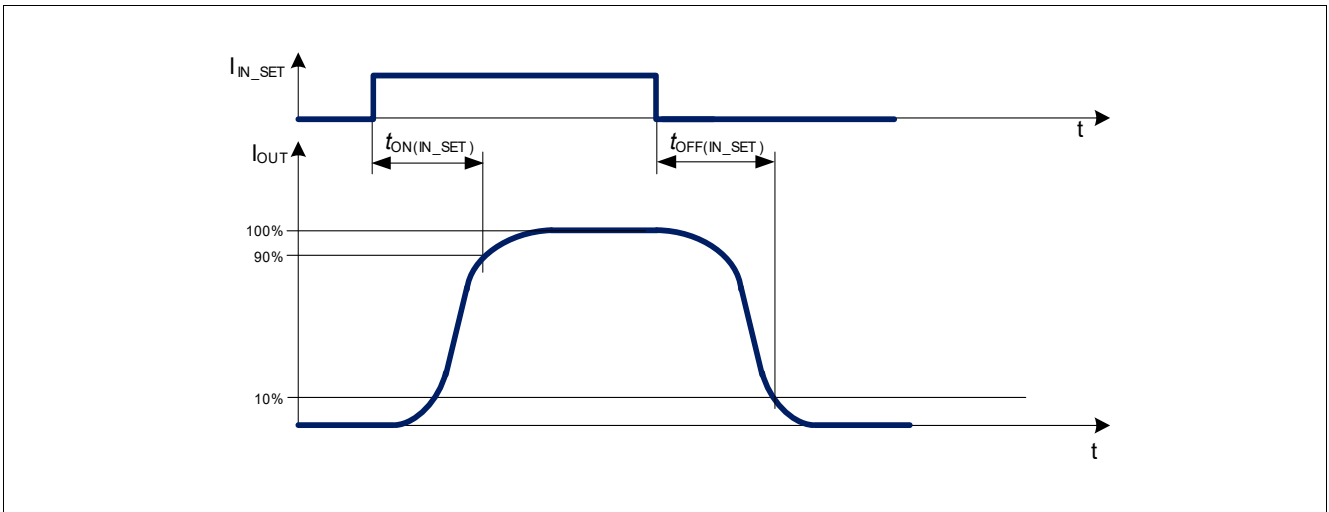
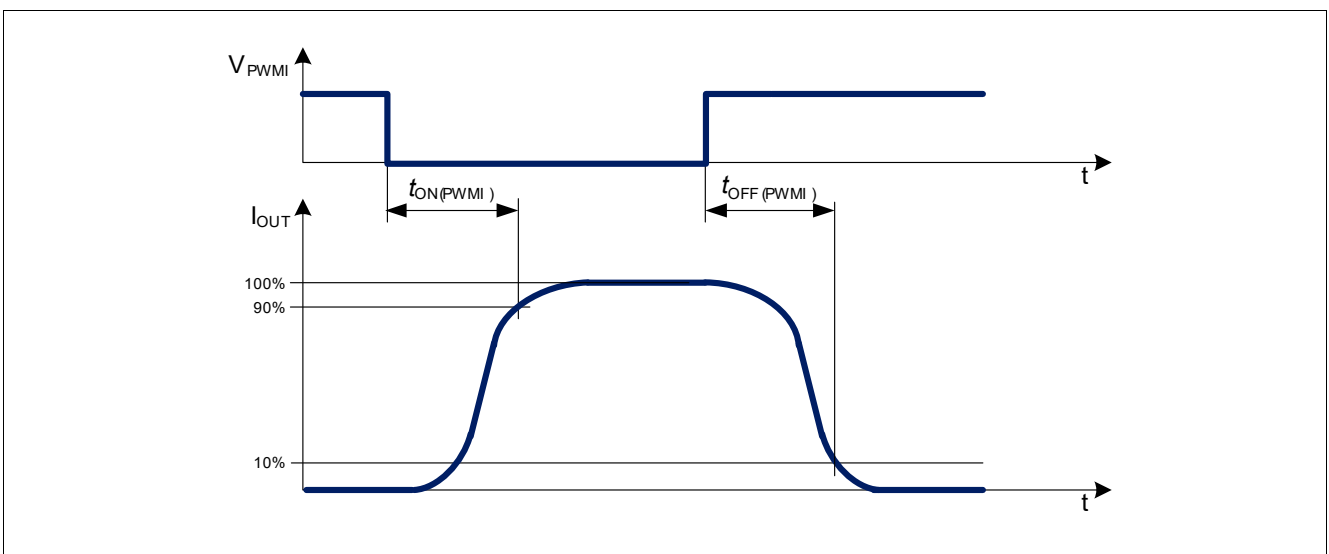

Figure 12 IN_SET turn on and turn off delay timing diagram
Figure 14 PWMI turn on and turn off timing diagram
In the following diagrams (Figure 12, Figure 14) the influences of different driving inputs on output activation delays are shown.
- 2) Refer to Figure 12.
- 4) Refer to Figure 14.